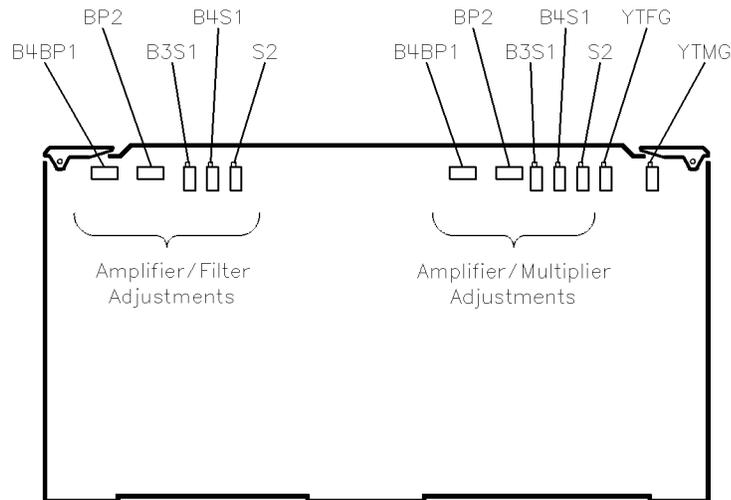

Figure 3-15. A12 Assembly Potentiometer Locations
18. Set A12R25 B3S1 fully clockwise (see Figure 3-15).
21. Adjust A12R25 B3S1 (see Figure 3-15) for maximum power at the high end. The high end power may peak twice. If it does, adjust the potentiometer to the lower peak (where the adjustment is furthest counterclockwise).
26. See Figure 3-15 and set: